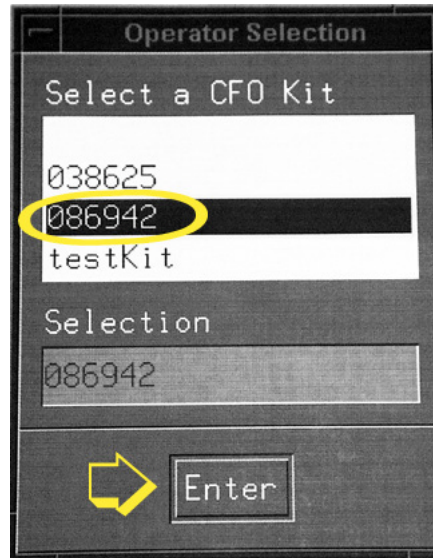

Figure 8
- 106 On the "Select a CFO Kit" menu, highlight the number for the CFO kit being used. See the circle in Figure 8. Click on "Enter." See the arrow in Figure 8.